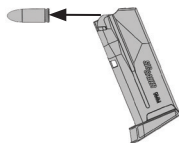

Figure 4
7. Empty magazine of remaining cartridges (Figure 4).